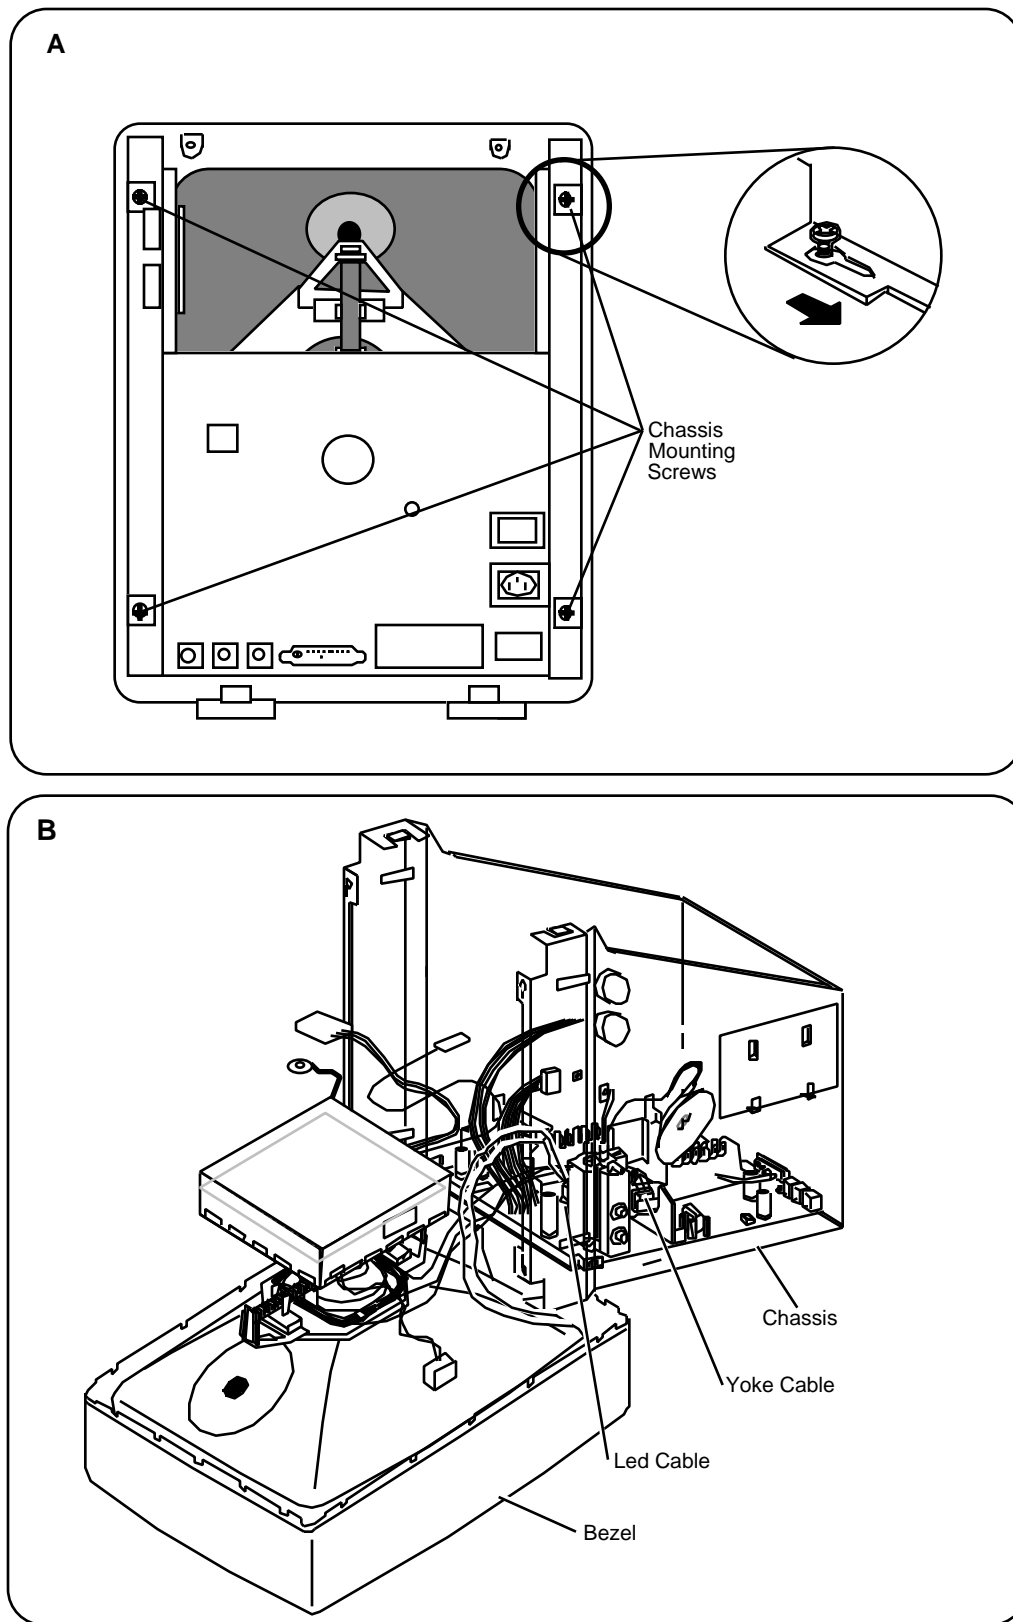

FIGURE 23
9. Separate the chassis and bezel. To do this, refer to **Figure 23** and follow these substeps: